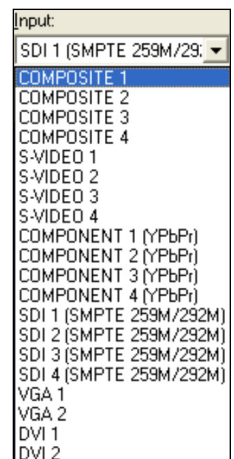

Figure 8: V-Max™ 4 Input Options
7. Click the **drop-down arrow** next to **Input** to choose the desired input or press **Alt-I** and use the **up** and **down arrows** to select it. Refer to **Figure 8**. After completing the setup procedure and configuring the settings for this input, adjust the settings for each of the other inputs as well.